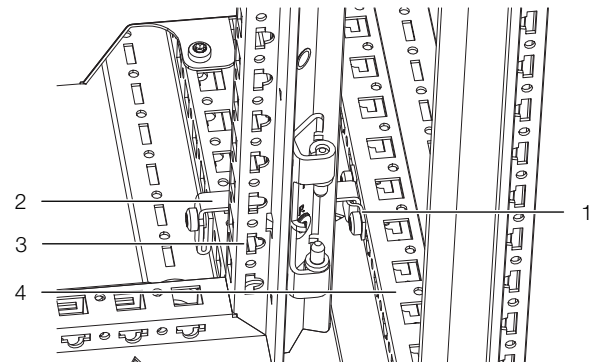

Fig. 40: Connection element in the rear area VX/VX
- Likewise, before baying, fit the bracket (fig. 40, item 1) required for the connection component to the VX IT server rack.
- Next, insert a connection component (fig. 40, item 2) in the rear section between the frames of the LCP Inline Protruding and the server rack.